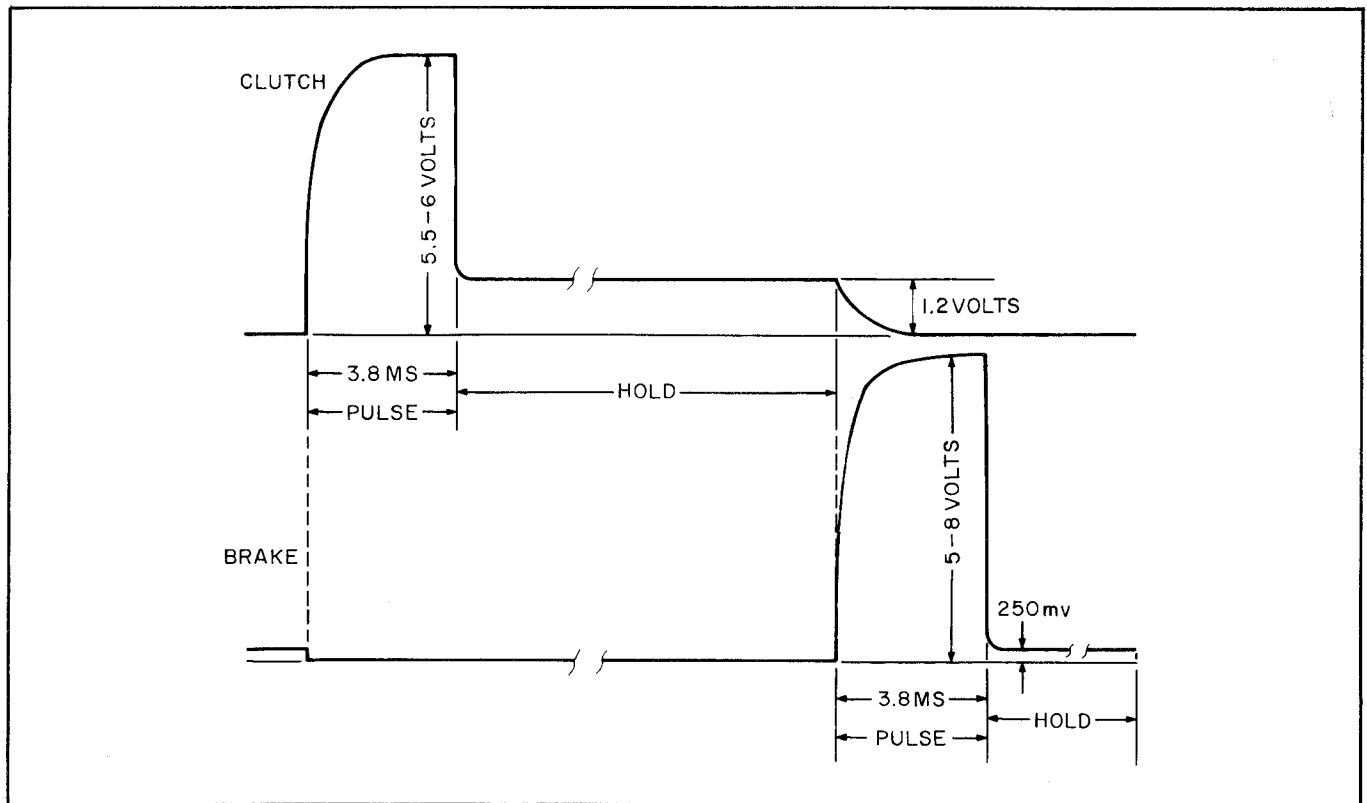

Figure 7-1. Paper Feed Brake and Clutch Waveforms
1. Clutch Pulse and Hold Waveforms (refer to Figure 7-1). Test points TP06 and TP07 are provided on the P. F. Control and Sense card to monitor the waveform and amplitude of the pulse and hold currents passing through the clutch coil. The currents are represented by output voltages developed across a one-tenth ohm resistor in series with the coil. The hold currents must be adjusted first.
2. Brake Pulse and Hold Waveforms (refer to Figure 7-1). Test points TP04 and TP05 are provided on the P. F. Control and Sense card to monitor the waveform and amplitude of the currents pulse and hold currents passing through the brake coil. The currents are represented by output voltages developed across a one-tenth ohm resistor in series with the coil. The hold current must be adjusted first.